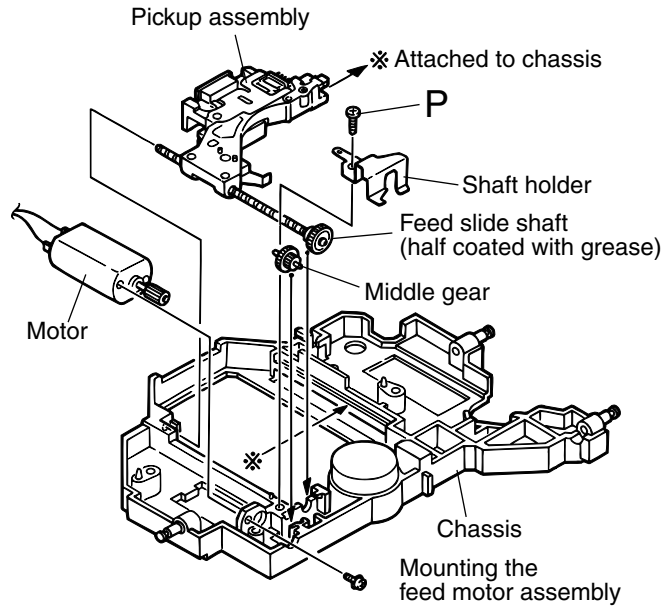

Fig. 30
■ Mounting the traverse mechanism (See Fig.30 to 34)